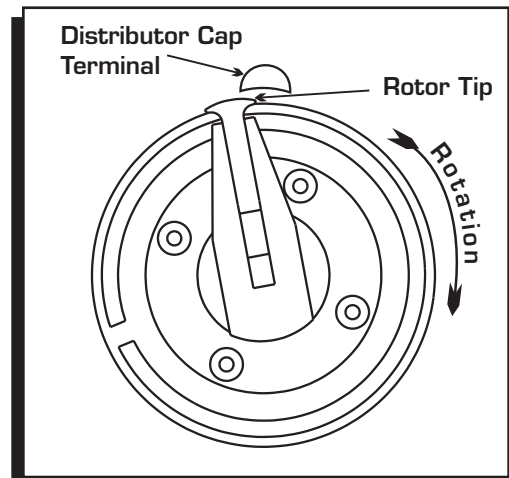

Figure 1 Rotor Tip and Cap Alignment.
2. Position the generator in the engine with the rotor tip leading into the #1 terminal of the cap (Figure 1).